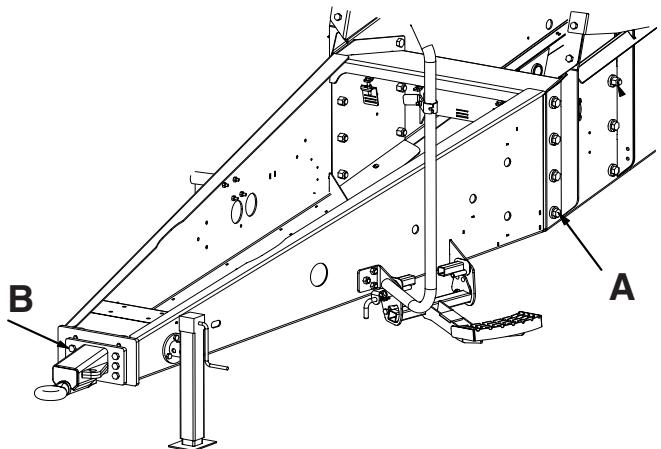

Fig 21
- 2 Tighten chassis bolts (A Fig 21) - 370 Nm (270 lbf-ft).
- 3 Tighten hitch bolts (B Fig 21) - 190 Nm (140 lbf-ft).